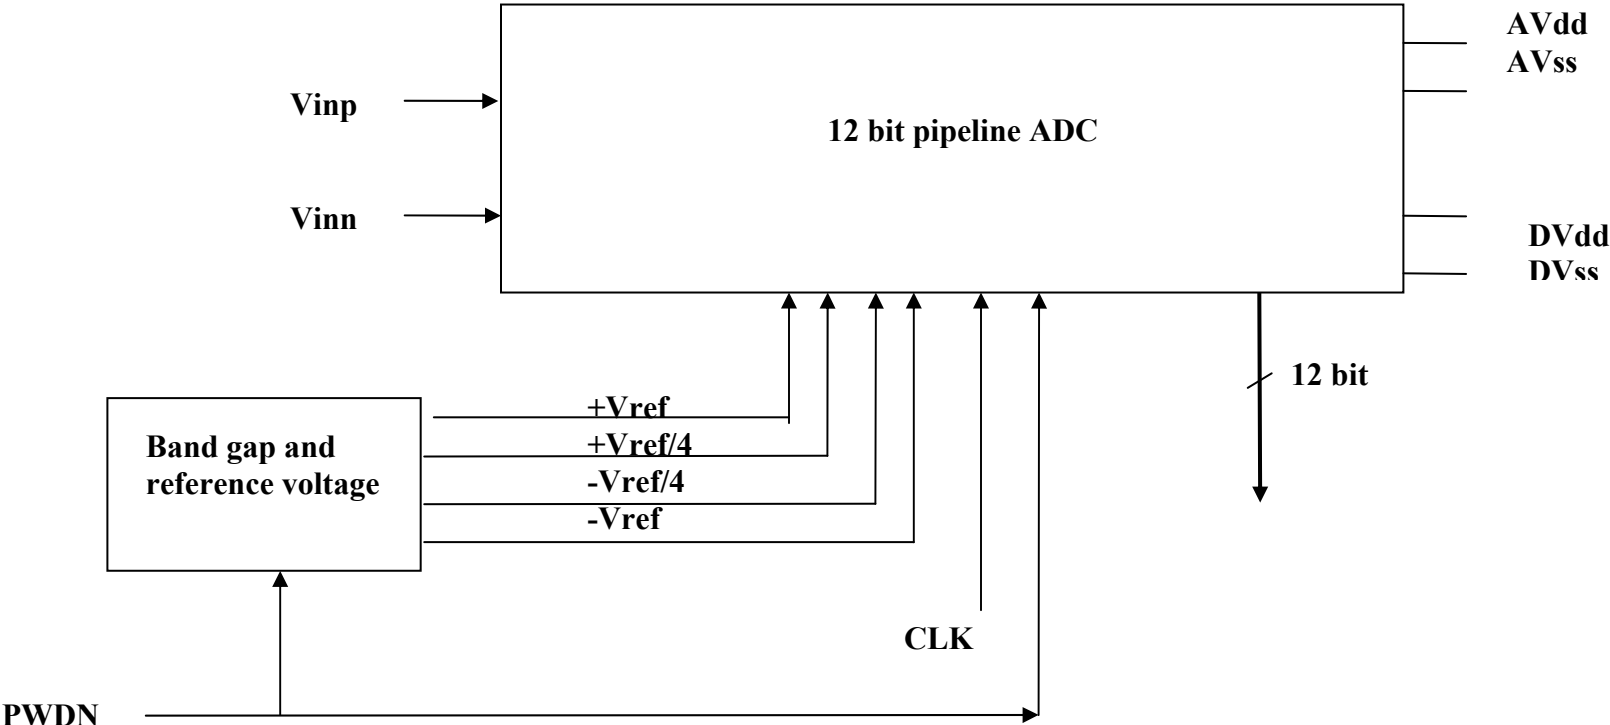

Figure 8. Block diagram of the 12 bit ADC and reference voltage
A 12 bit pipeline Analog to Digital Converter (ADC) is used to convert from analog signal to digital number (DN). Figure 8 shows the block diagram of the 12 bit ADC and reference voltage. A pipeline ADC structure is used for the 12 bit ADC design since it has high speed and high performance characteristics.